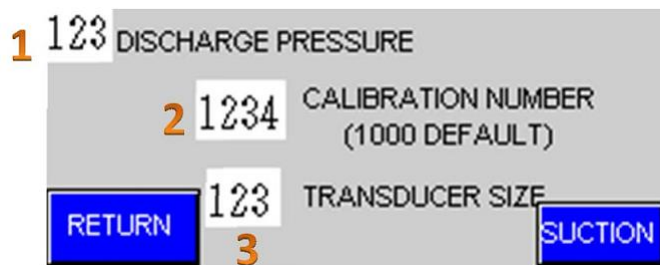

Figure 13. Transducer Calibration Screen
1. **Transducer Calibration Menu.** Displays the transducer calibration screen, Figure 13.